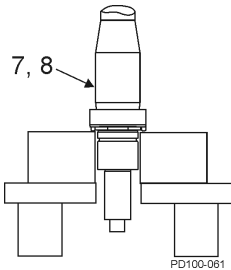

Figure 44 - Grease shaft
1. Lubricate the front bearing area of the shaft (Figure 44, item 7, 8) with oil or grease. See "Lubrication" on page 19. Place the shaft and bearing assembly upright in a hydraulic press with the liquid end facing down.